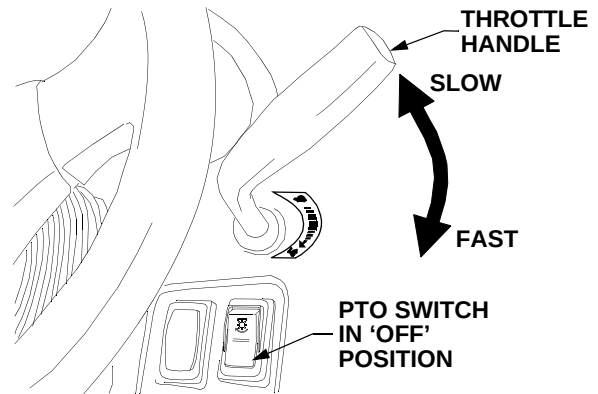

Figure 13
- Move the throttle handle to midway between the "SLOW" and "FAST" position. Refer to Figure 13.